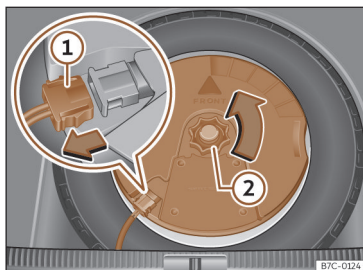

Fig. 241 In the boot: remove the subwoofer.
- Disconnect the subwoofer's speaker cable >>> Fig. 241 ①.
- Turn the securing wheel anti-clockwise >>> Fig. 241 ②.